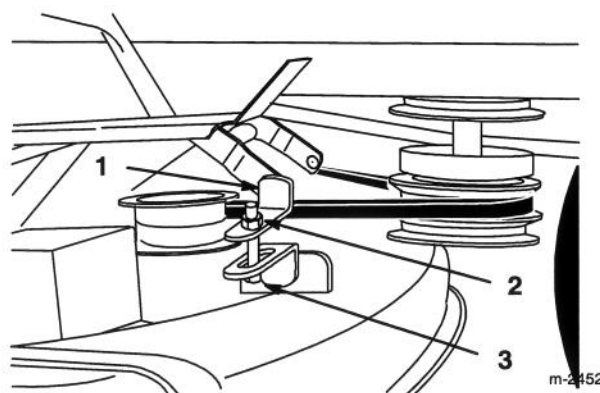

Figure 11
7. Install front adjustable link to front lift arm with washer and small hairpin cotter (Fig. 11).
6. To adjust front-to rear blade level, loosen jam nut on front adjustable link (Fig. 11).
7. Rotate the bolt on front adjustable link to change front-to rear blade level (Fig. 11).